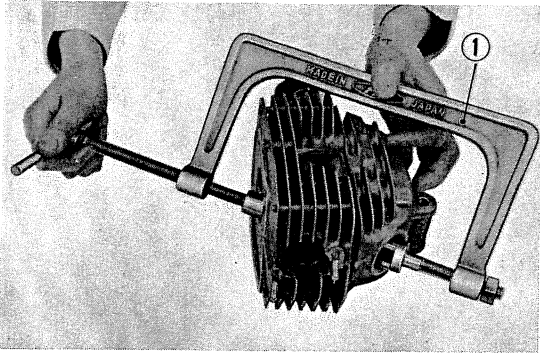

Fig. 49 Valve removal
- 2) Compress valve spring with a valve lifter and remove valve cotter and valve spring. The valve can then be removed. (Fig. 49)